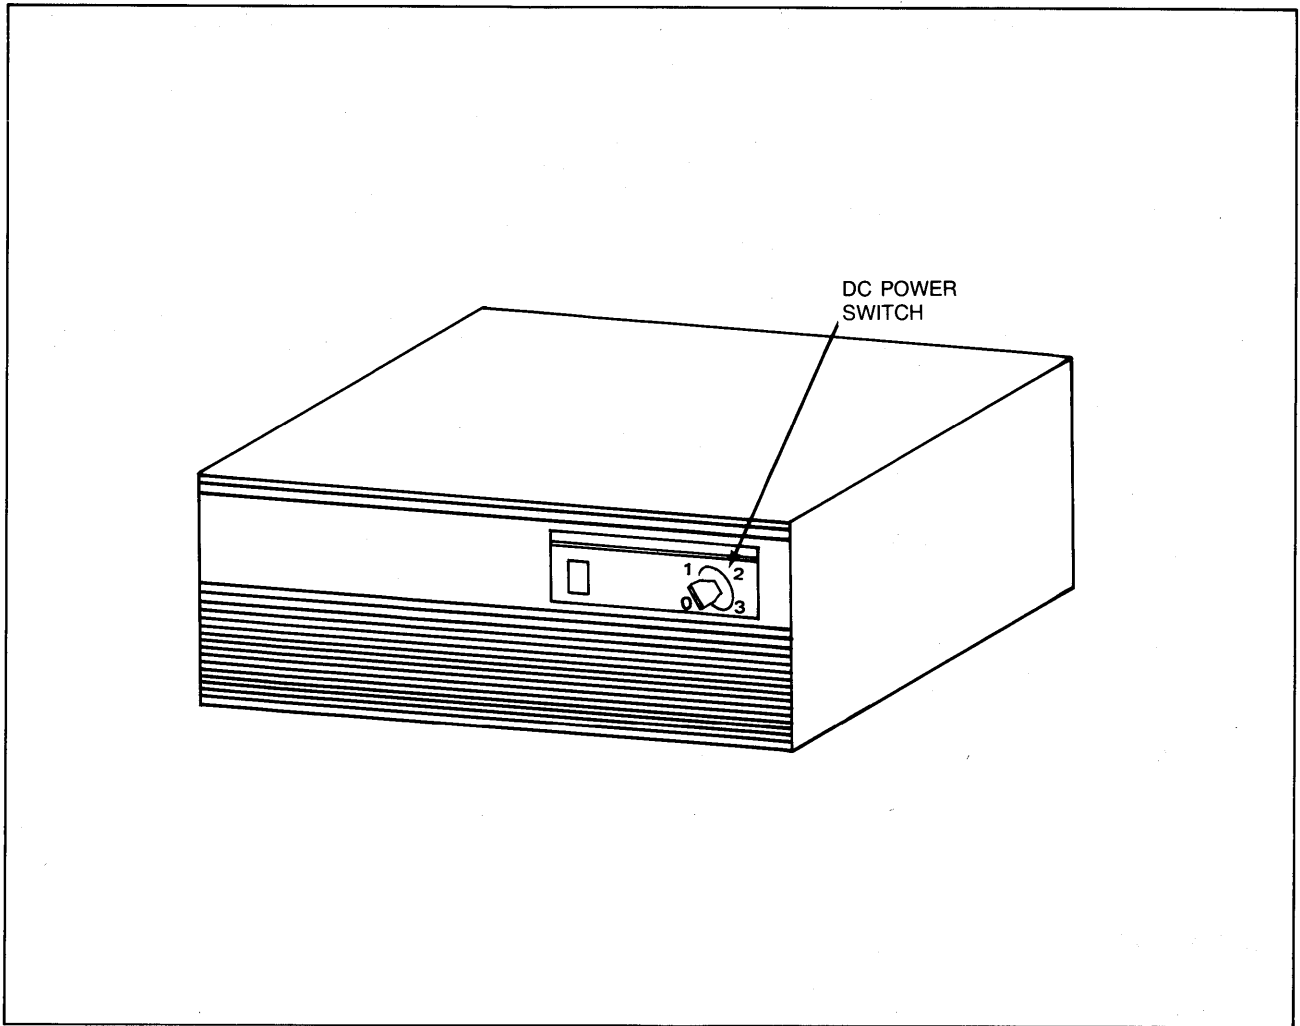

Figure 2-2. Location of DC Power Switch on HP 3000/37
2. Turn off the DC power by setting the key-operated switch (located on the front of the HP 3000/37 mainframe, as shown in Figure 2-2) to the 0 position. (The "DC" indicator light on the front panel will go off.)